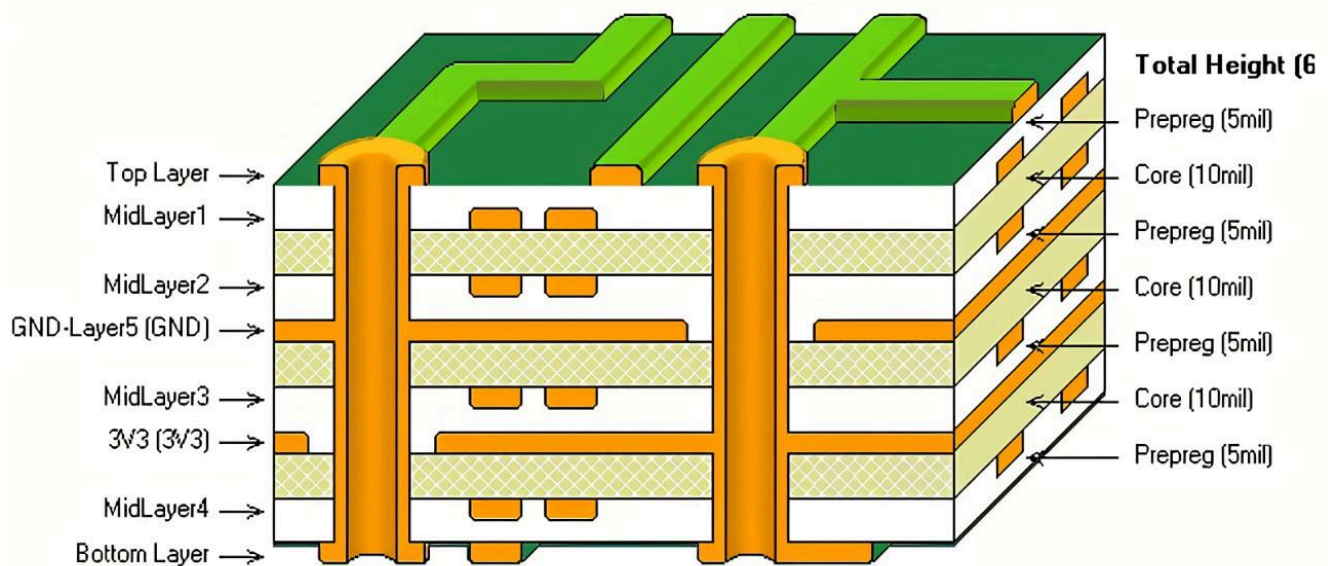

Figure 4: Exploded PCB Stackup View
- Figure 4:** Exploded PCB Stackup View